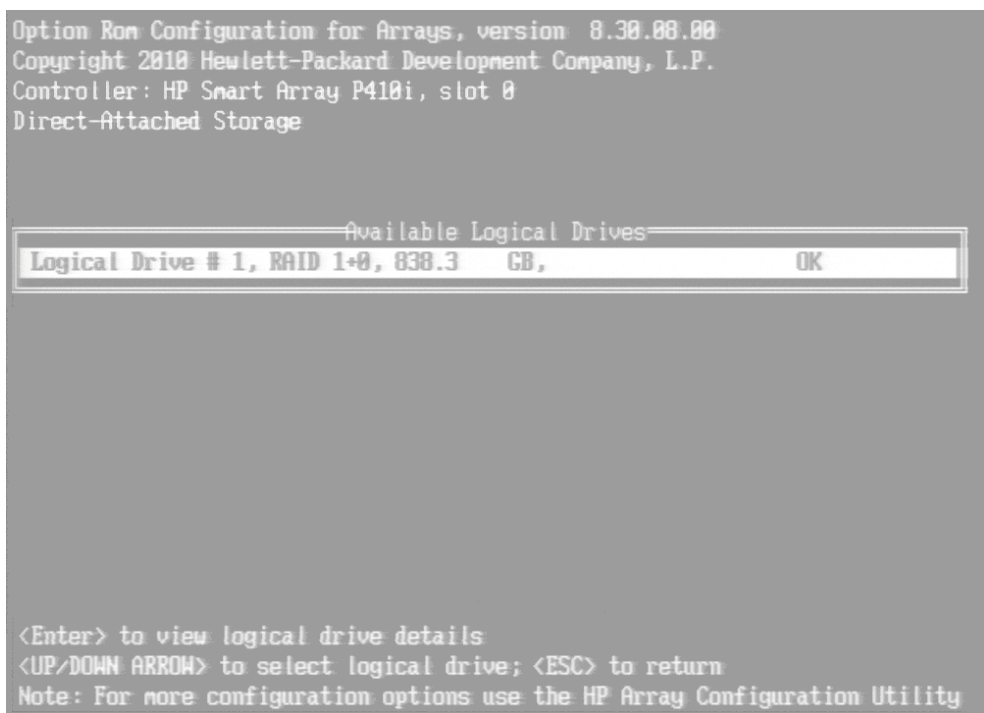

Figure 2: View Logical Drives in RAID BIOS
3. Select **View Logical Drive** and press **Enter** (See Appendix A, Figure 2).